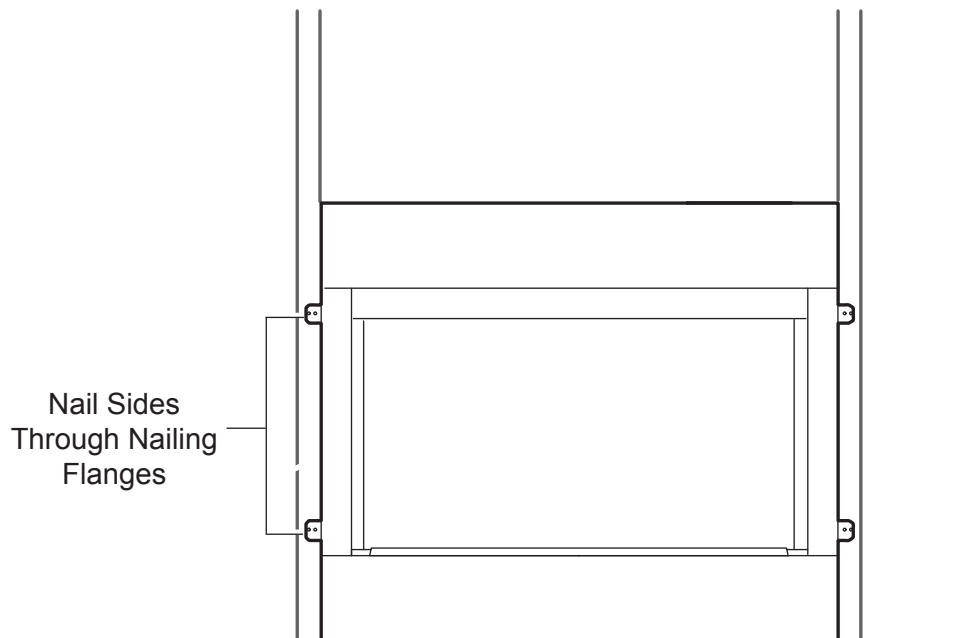

Figure 12 - Location of Nailing Flanges
4. Anchor firebox to the side framing members using 8d nails or other suitable fasteners. *See Figure 12.*